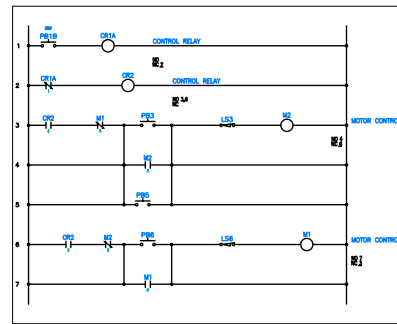

Figure 6-53 The ladder after using the *Scoot* tool
5. Press ENTER to exit the command. Figure 6-53 shows the schematic diagram after using the **Scoot** tool.